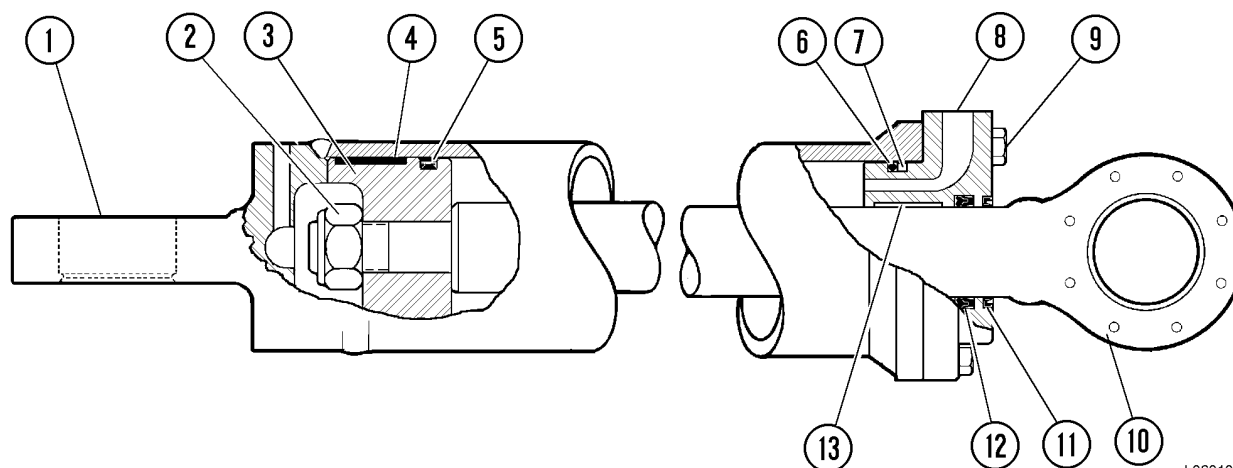

FIGURE 6-7. STEERING CYLINDER ASSEMBLY
1. Remove capscrews (9, Figure 6-7) and pull rod (10) and gland (8) out of cylinder housing (1).
2. Remove locknut (2) and piston (3). Remove piston bearing (4) and piston seal (5) from the piston.
3. Pull rod (10) free of gland (8). Remove O-ring (6) and backup ring (7). Remove rod seal (12) and rod wiper (11). Remove bearing (13).
1. Install new piston seal assembly (5, Figure 6-7) on piston (3) as follows:
- b. Remove the seal from the water and assemble it on the piston. **Do not take longer than five seconds to complete** because the seal will take a permanent set. Piston bearing (4) may be used to position the seal in the groove. Apply pressure evenly to avoid cocking the seal.
2. Install bearing (4) in the piston groove.
1. Install new bearing (13, Figure 6-7), rod seal (12), rod wiper (11), backup ring (7) and O-ring (6) in gland (8).
2. Push rod (10) through the top of the gland. Slowly advance the rod over the rod seal and rod wiper.
3. Install piston assembly (3) on the rod. Secure the piston to rod with locknut (2). Tighten the locknut to **3 390 N·m (2,500 ft lb)**.
4. Carefully install the rod and gland assembly into cylinder (1). Make sure that the backup ring and O-ring are not damaged during installation of the gland.
5. Install capscrews (9). Tighten the capscrews evenly to **420 N·m (310 ft lb)**.